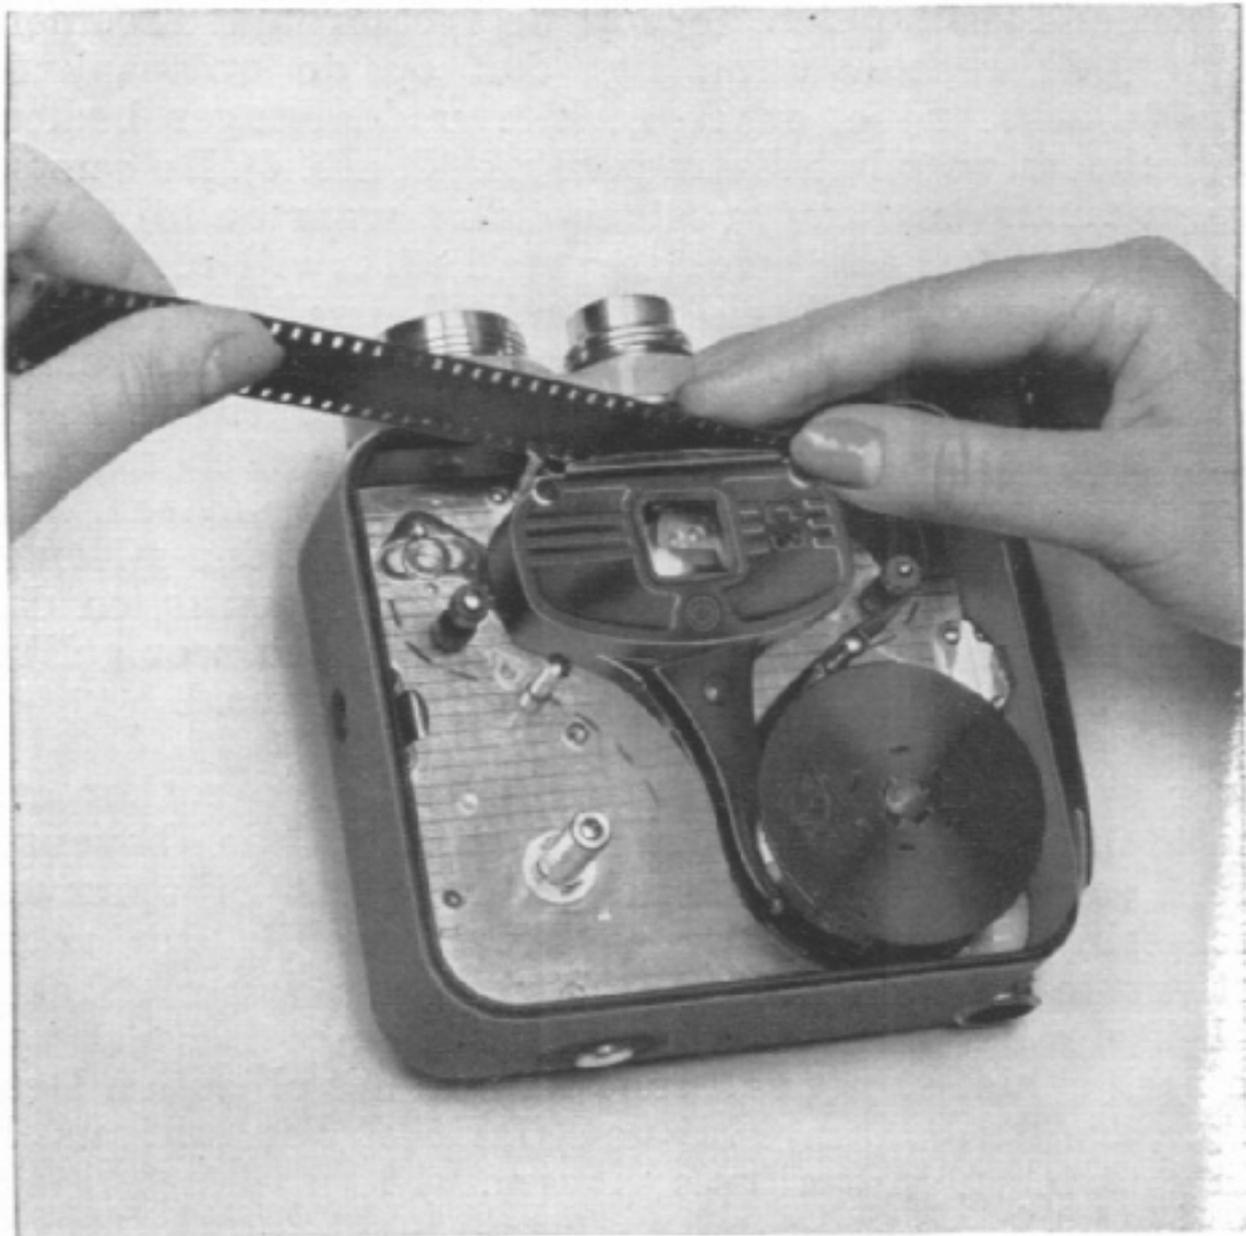

afb. 1
Before loading the film, the motor spring must be wound up by turning key 1 (Fig. 1) to the right, in a clockwise direction. The motor spring is exceedingly strong, and, on one winding, will operate about 2.5 metres of film quite regularly and smoothly, which corresponds to a projection period of about 40 seconds, at the speed of 16 pictures per second. Nevertheless it is advisable to wind up the camera after each shot. If the camera is not to be used for some time, it is advisable to let the motor spring
Now the metre gauge 2 (Fig. 1) is pressed down and turned forward until the red mark between the figures 0 and $7\frac{1}{2}$ is exactly opposite the red mark on the ring surrounding the indicator disc.
The red dot on the turning knob 3 (Fig. 1) is turned forward to the letter corresponding to the speed of the film used, viz.: